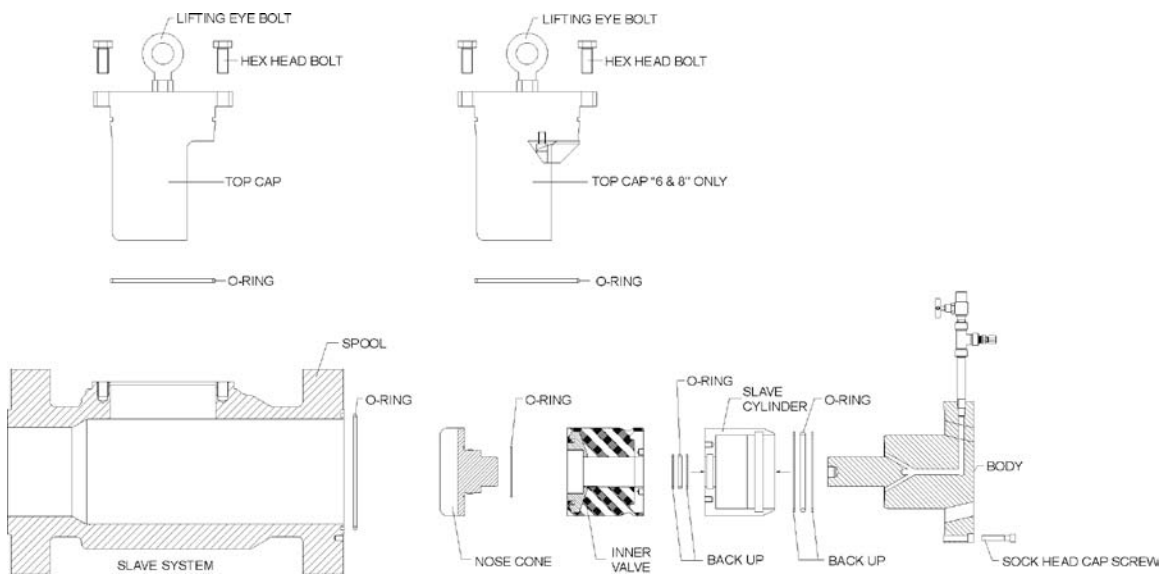

Figure 9
4. Remove the Top Cap bolts (Figure 9, page 20). Using the cover jack bolts (2), “jack” the Top Cap straight up (making sure O-ring is not damaged, if so, replace). Set cover aside on a clean rag.
5. Remove the inner valve by sliding the nose cone and inner valve assembly forward off the slave piston stem and then lifting back and out. Both hands are required to remove the 6” and 8” inner valves due to their weight. After removal, unscrew the nose cone from the inner valve (Figure 9, page 20).
- 6b. Clean slave cylinder, lubricate and replace the crown seals or O-rings and back up (Figure 9, page 20).
- O. Remove nuts from studs (2) and remove support plate from Control Valve spool.
- P. Unscrew studs (2) and remove from Control Valve spool.
7. Lubricate and replace O-ring in nose cone groove, and screw nose cone onto new inner valve (Figure 9, page 20).
8. Place inner valve back on slave piston stem by reversing step 3. Be sure and go into inspection port with nose cone end of assembly first (Figure 9, page 20).
9. Lubricate and replace the Top Cap O-ring and slip cover back into position (make sure the correct orientation of top cap). Replace and tighten inspection cover bolts (Figure 9, page 20). Use a star or cross bolt pattern to tighten.